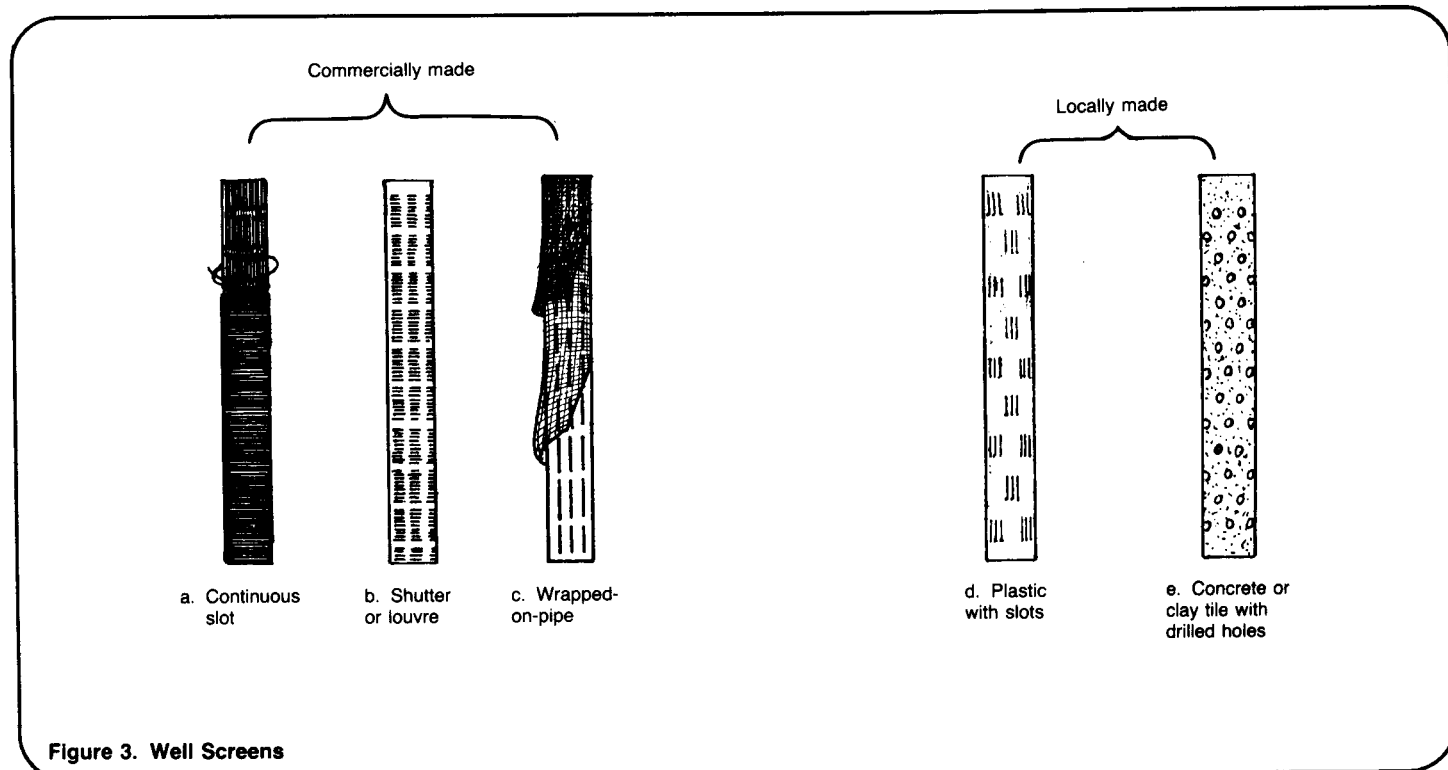

Figure 3. Well Screens
3. Design drawing of the well screen similar to Figure 3.